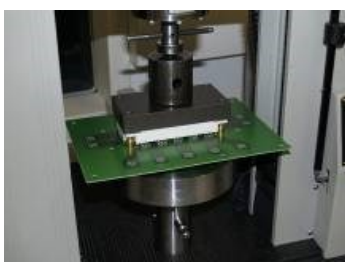

Figure 6 Module is pressed into the PCB
4. The module is pressed into the PCB with the tightly and parallel mounted stamp plate (Figure 6 left)
5. Complete equipment with monitoring unit (distance and force) (Figure 6 right)